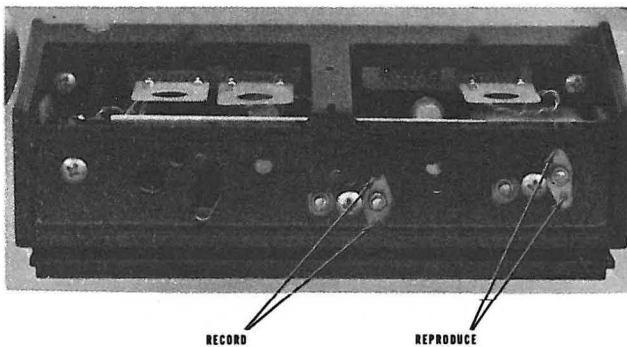

Fig. 4D-1. . Head Height and Zenith Adjustments
Step 4: Turn the two hex-socket setscrews (see Fig. 4D-1) clockwise the same number of turns, until the head laminations barely appear at the tape bottom edge.
To adjust the head zenith, use the two hex-socket setscrews (also used for head height adjustment, see Fig. 4D-1). As the adjustment is being made, visually check the zenith by lining up the head with the capstan or the scrape-flutter idler. Turn the outermost setscrew in and the innermost setscrew out, to move the stack bottom in (away from the tape). To move the bottom of the head out (toward the tape), reverse the procedure. Be sure both setscrews remain snug. When the zenith adjustment seems correct, recheck it with the grease pencil method described above. Repeat the adjustment until the head zenith is correct (no zenith adjustment is required for the erase head).